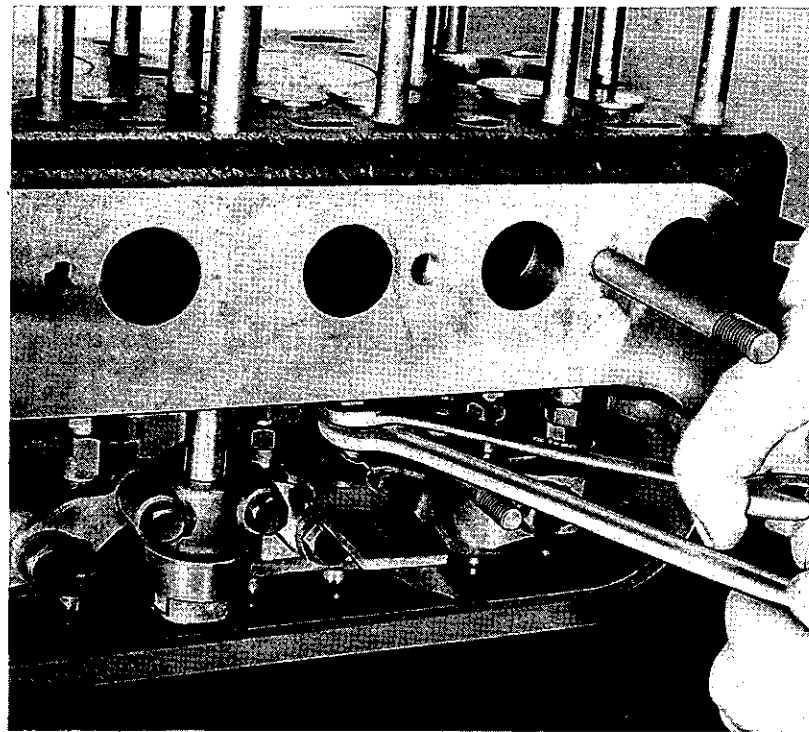

Fig. 21. Adjusting valve tappets with two spanners and tappet lock
2. Slacken off the lock nut on the tappet which is being adjusted with a suitable spanner ( $\frac{1}{2}$ " A/F) whilst preventing the tappet from rotating by either the engagement of a spanner on its two flats ( $\frac{13}{32}$ " A/F) or the employment of suitable wedge pieces inserted between the two tappets as shown in Fig. 21. Having slackened off the locknut another spanner should be used to rotate the lock nut, ( $\frac{7}{16}$ " A/F) until a clearance of .015" is provided. Having obtained the correct clearance the lock nut should be secured, whilst preventing any movement of the tappet and adjuster screw. After tightening the locknut recheck the clearance with a .015" clearance gauge and ensure that this gauge is a push fit between the valve stem and adjuster